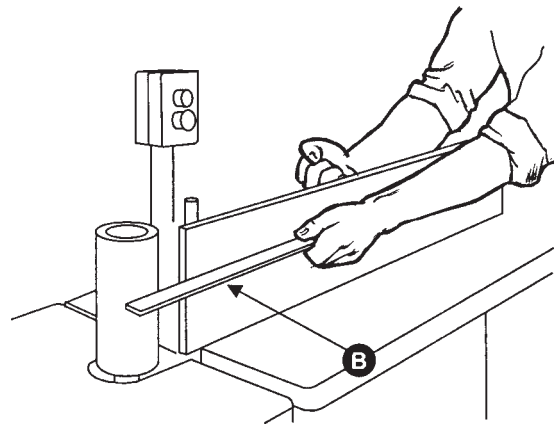

FIGURE 8
3. Using a straight edge (B), to measure the protruding distance between the surface of the steel platen and the two pulleys (i.e. motor contact wheel & idler pulley). See Figure 8.
5. Re-tighten the fixed screws (A) on the platen, and replace sanding belt.